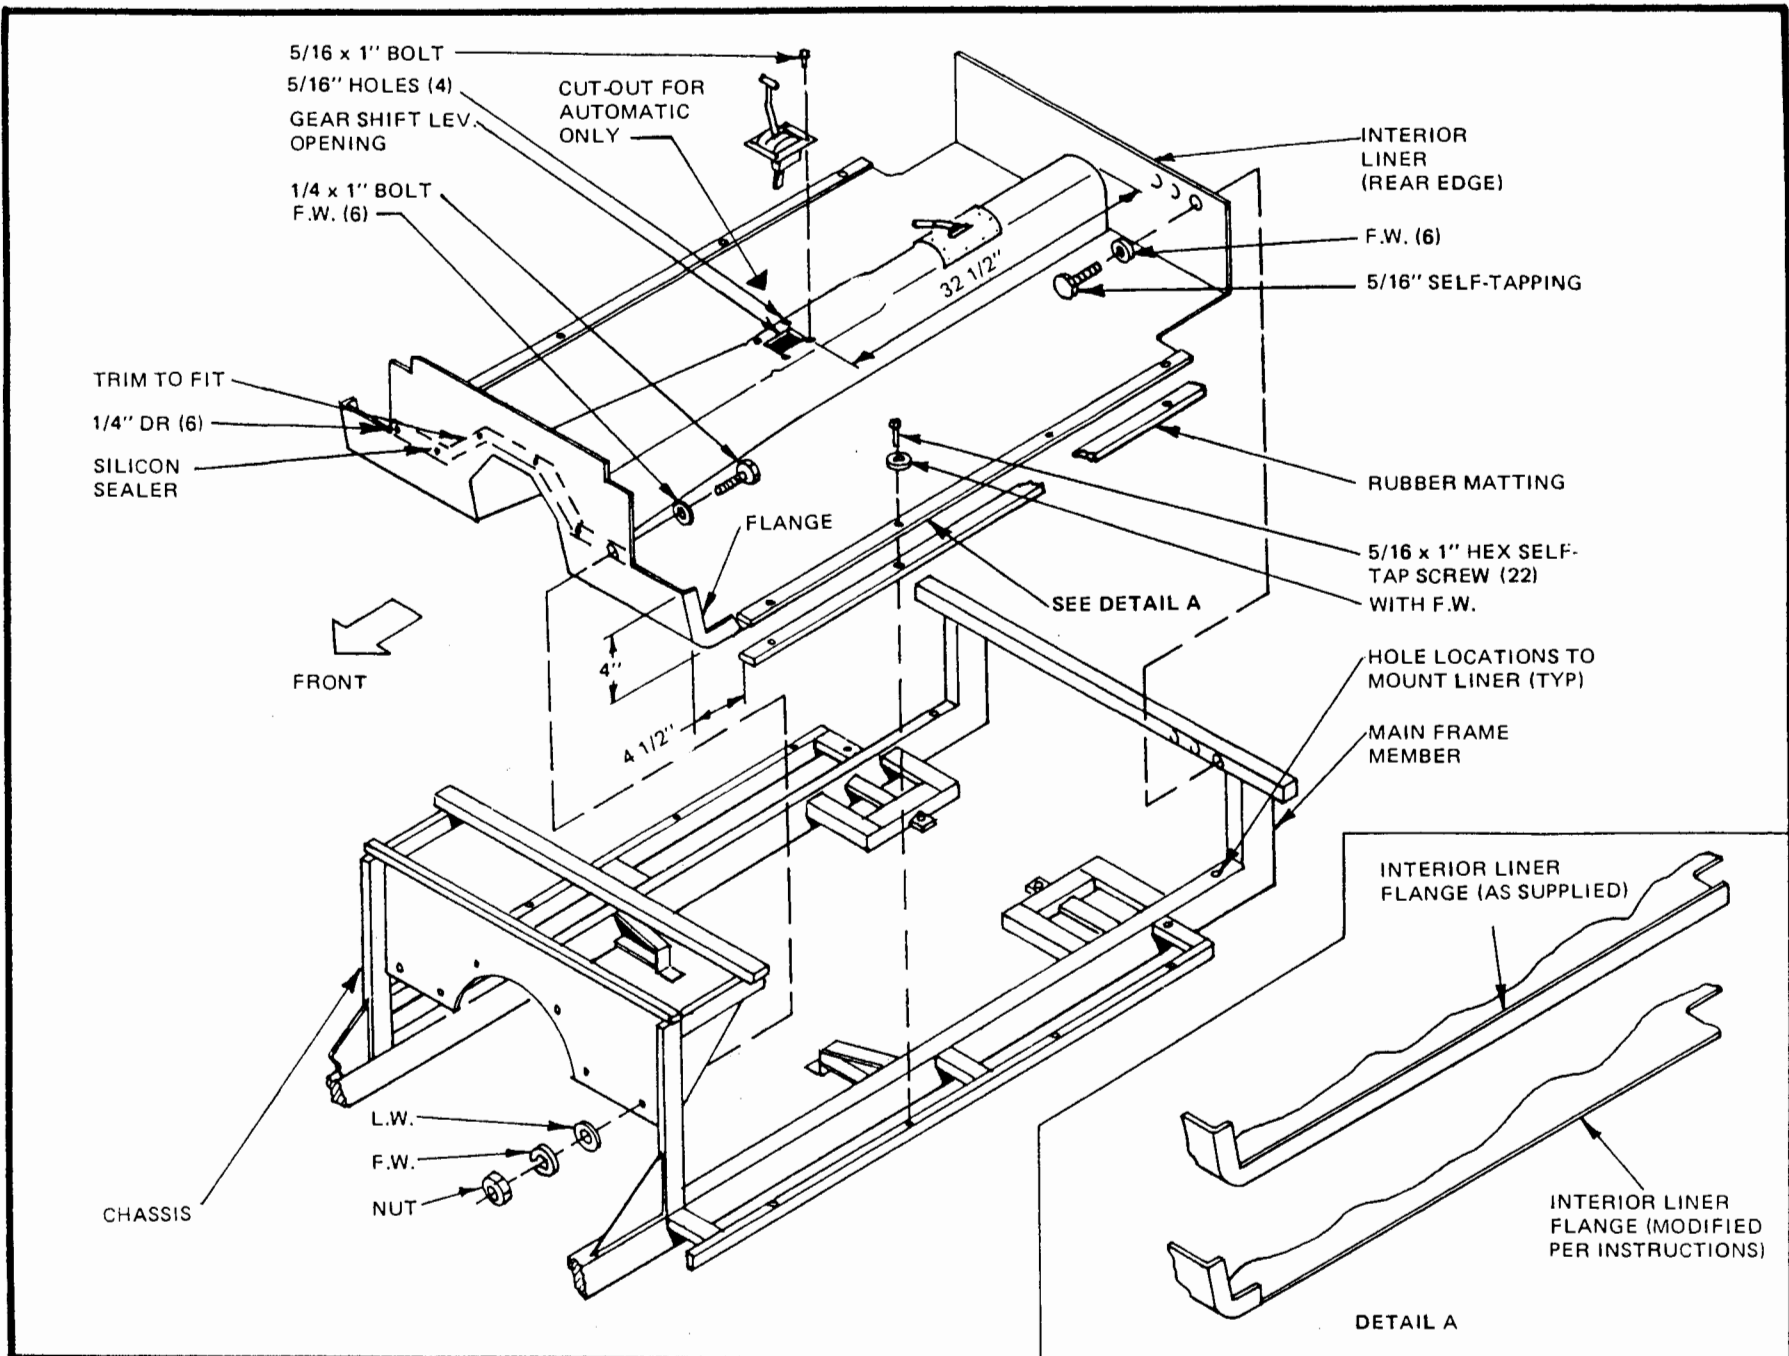

Figure 23
- Cut out the depression in the interior liner for the gear shift lever. It may be necessary to further trim the area for a good fit. Mark hole locations and drill 5/16" holes. Center of shift lever rear mounting holes measures 32 1/2" from back of liner. Bolt using 5/16 x 1" hex head bolts with flat washer, lock washers and nut. (Figure 23)
- Fit liner onto chassis trimming the corners as necessary to clear steering column hole, heater holes, frame support braces, etc. Trim side lip off both sides of liner. (Figure 23) Glue rubber matting or weather stripping where liner contacts frame. Apply silicone sealant to the edge of the liner where it contacts the firewall. With the liner in place, drill 8 holes through each side of liner and top of frame. (Use 1/4" drill. See diagram for hole locations. Also drill 6 holes across rear of liner. Secure liner to frame with 22 hex head 5/16" self-tapping screws with flat washers. Drill 6 holes 1/4" through liner and firewall and bolt using 1/4 x 1" bolts, flat washers and nuts. (Note: Pop rivets may be used to secure liner to frame in place of self-tapping screws.)